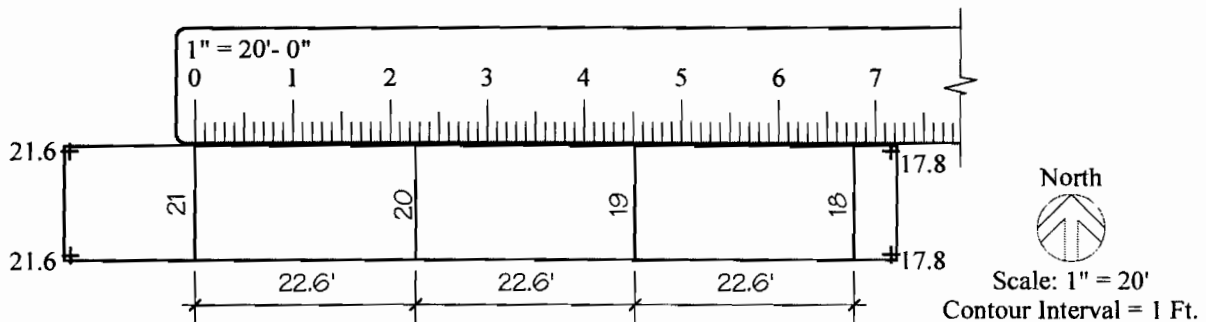

Figure 24. Example — Finding Length Between Remaining Whole Number Contour Lines
- √ place the zero point of the scale on contour line 21 — the scale will remain in this position throughout as shown in Figure 24